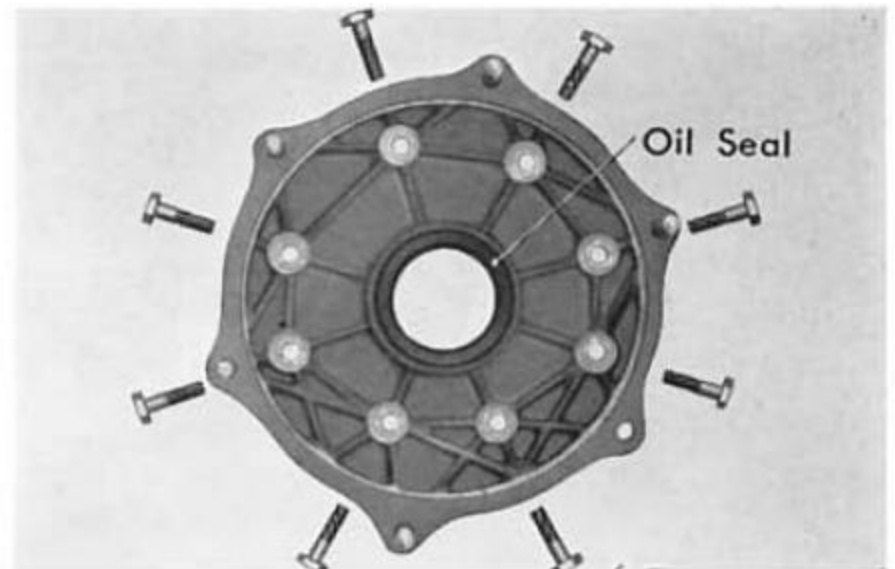

Fig. 11-2
3. Remove the oil seal from the rear cover (Fig. 11-2).